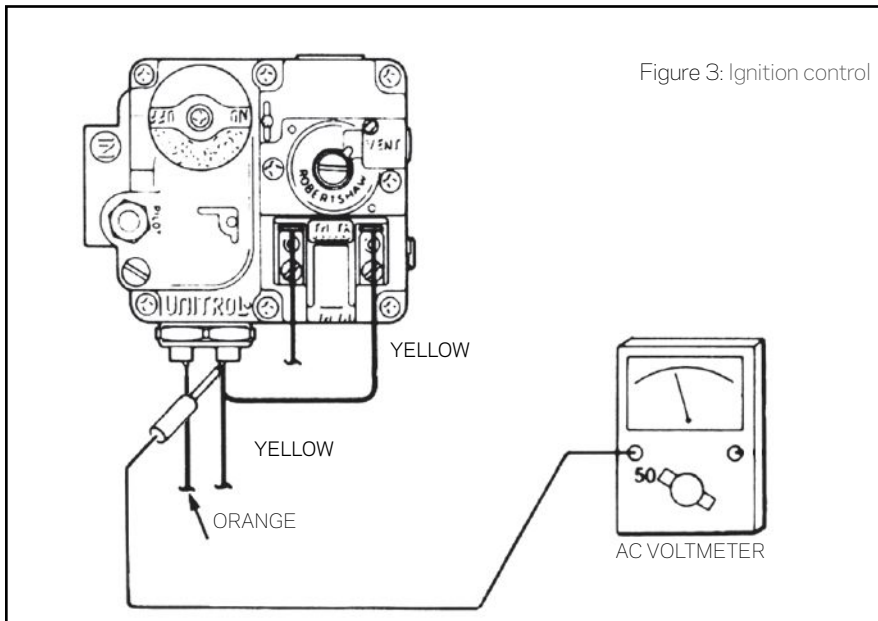

Figure 3: Ignition control
- **Check the ignition control.** When an IID heater won't fire, the ignition control is another suspect. Electrically, the ignition control is tested in the same fashion as the safety devices. First, verify that it's receiving 20- to 30 volts. Then make a visual inspection of the unit and test for a spark at the pilot-burner electrode. Use caution around the electrode: It has low amperage, but a high voltage! (see Figure 3).